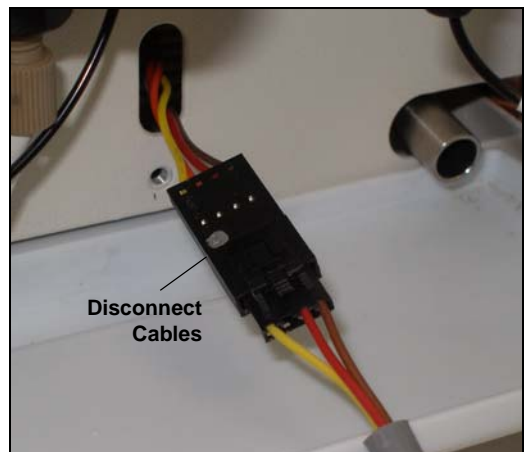

Figure 5-30. Leak Sensor Cable
5. The cable attached to the leak sensor is connected to a matching cable inside the ICS-2100. Continue pulling the cable until the connectors for the two cables are outside of the panel (see Figure 5-30).